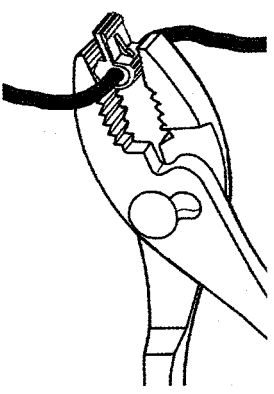

FIGURE 43
- 1.) USING PLIERS, ATTACH ONE SUPPLIED 3M CRIMP LOCK TO THE 12 VDC POWER SOURCE BLUE/BLACK WIRE AND ANOTHER ONE TO THE BLACK WIRE APPROXIMATELY 10 TO 20 MM FROM THE HARNESS BREAKOUT. PLACING THE 3M CRIMPS IN THIS LOCATION WILL FACILITATE RE-ASSEMBLY. (SEE FIGURES 43 AND 44 )